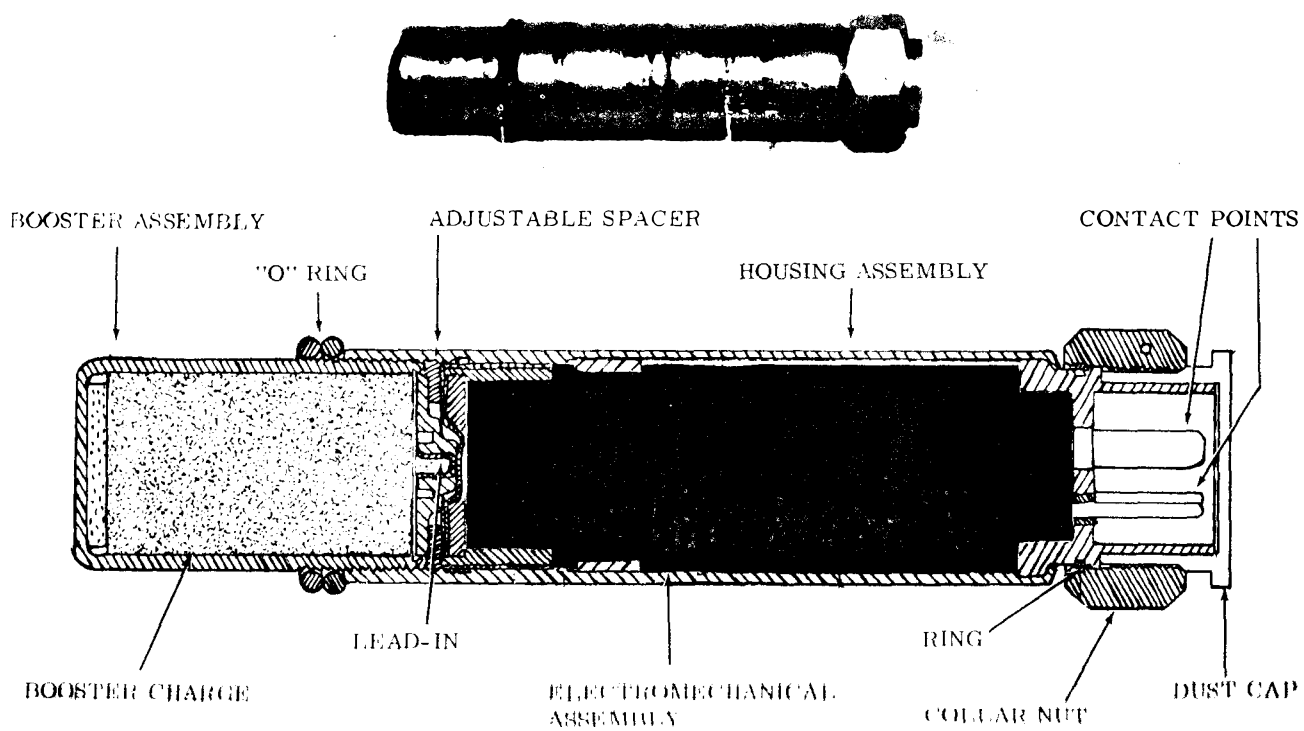

Figure 5-42. Contact Fuze
b. Contact Fuze: Detonates W/H on contact. Located aft of the G&C unit with a booster that extends into the center of the W/H (reference figure 5-42).